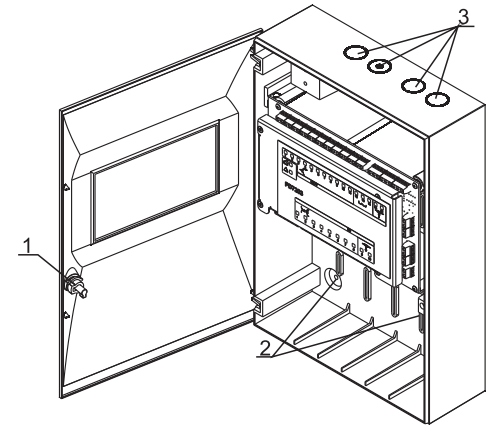

Fig.3
- 1.2. Open the cover of the device. To unlock it, put a coin in the slot of the plastic lock and turn it anticlockwise at 90 degrees (pos.1, fig.3).
- 1.4. Fix the device to the dowels through the three holes on the back side of the box (pos.2, fig.3).
- 1.5. Pass the connecting cables to the signal, power loop and other devices to the terminals row of FD7203 using the holes that were freed in advance (pos.3, fig.3).